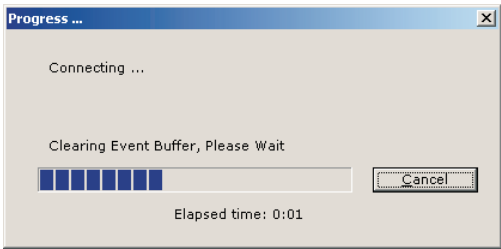
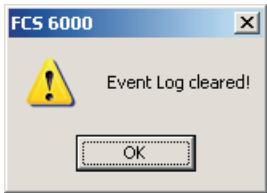

Figure 4-21. Clear Event Log Progression
Figure 4-22. Clear Event Log Complete
5. Select **<OK>**. In response, the progression of the clearance procedure is displayed (Figure 4-21). After the event log has been cleared, a notification (Figure 4-22) is displayed.